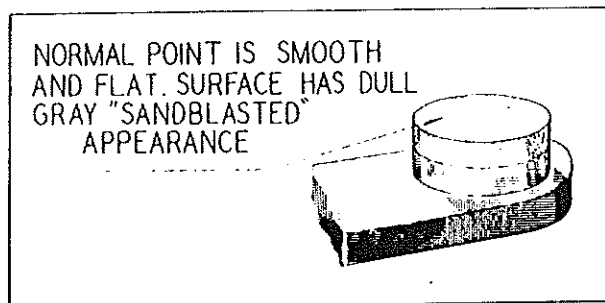
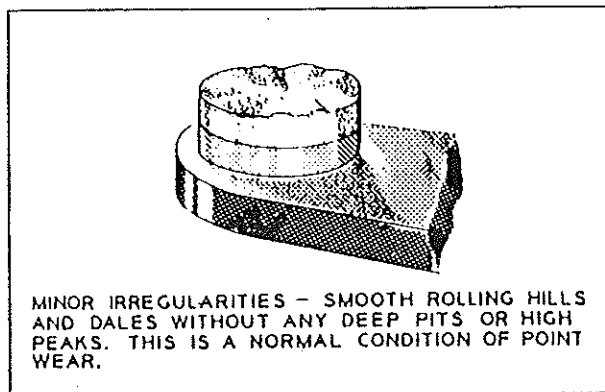
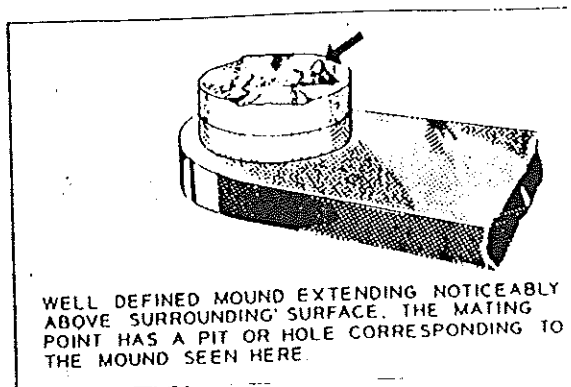

Figure 602. Normal Contact Point
Figure 603. Point with Minor Irregularities Contact Assembly (39) Usable
Figure 604. Point with Well Defined Mound Replace Contact Assembly (39)
- C. Examine contact points for excessive wear or burning. Contact assemblies (39) with points which are deeply pitted or burned must be discarded. Figure 602 shows how the average contact point will look when surfaces are separated for inspection. Desired contact surfaces have a dull gray sandblasted (almost rough) or frosted appearance over the area where electrical contact is made. This means that points are worn in and mated to each other, thereby providing the best possible electrical contact and highest efficiency of performance. Minor irregularities or roughness of point surfaces are not harmful (see Figure 603), and neither are small pits or mounds, if not too pronounced. If there is a possibility of pit becoming deep enough to penetrate pad (Figure 604), reject contact assembly.